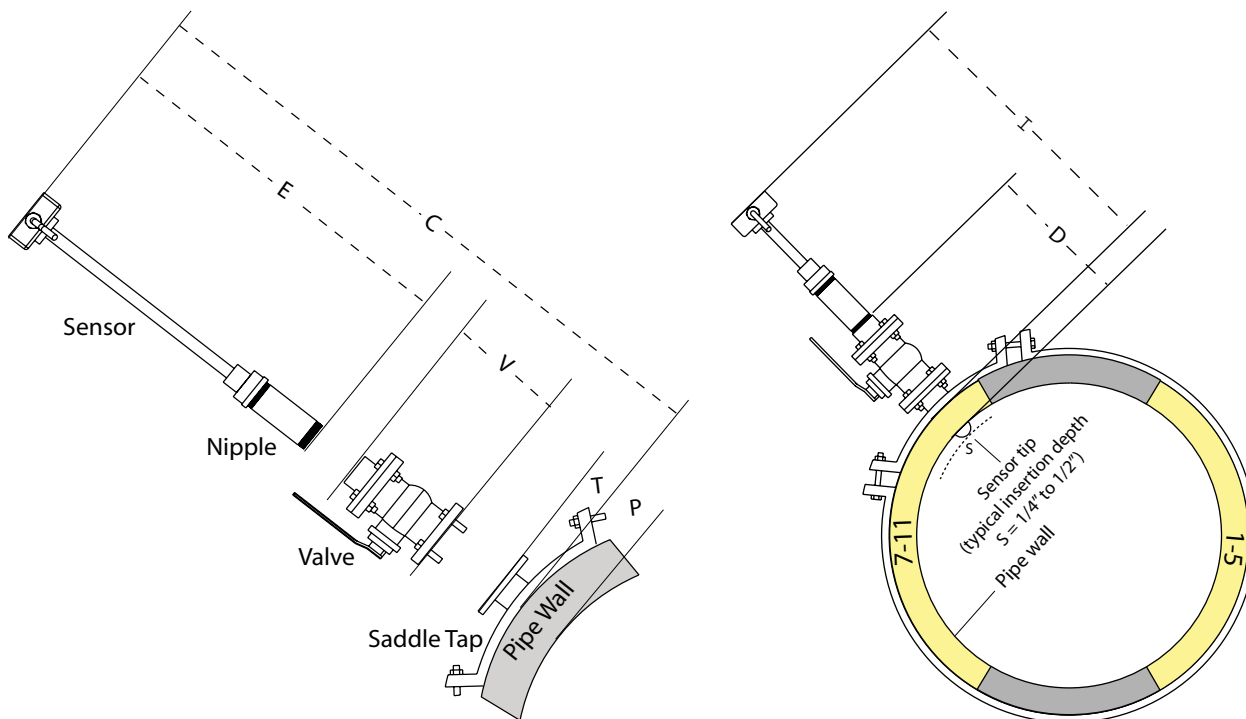
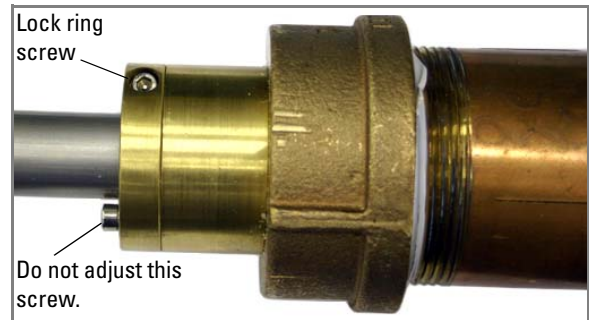

Figure 1: Component measurements and sensor positioning
Figure 4: Securing the sensor in place
The preferred locations for sensor installation in a horizontal pipe are between the clock positions 1 and 5, and 7 and 11, as shown in Figure 1. Installation at the top and bottom of the pipe should be avoided due to the possibility of trapped air or sedimentation, respectively. The sensor may be installed at any position in a vertical pipe, provided the stream is flowing upward.
Before installation, fully extend the Hot Tap by loosening the lock ring screw (Figure 4) and pulling the sensor all the way back inside the nipple. The sensor's extended length (E) is 2.25 in. greater than the sensor length L . Use Figure 1 and the chart as a guide when calculating distances C and D .
2. Screw the nipple into the valve (Figure 1).
5. Lock the sensor shaft in place by tightening the clamping collar (Figure 4). Note that there are two Allen screws; the screw to be tightened is on the side of the ring, not the top.